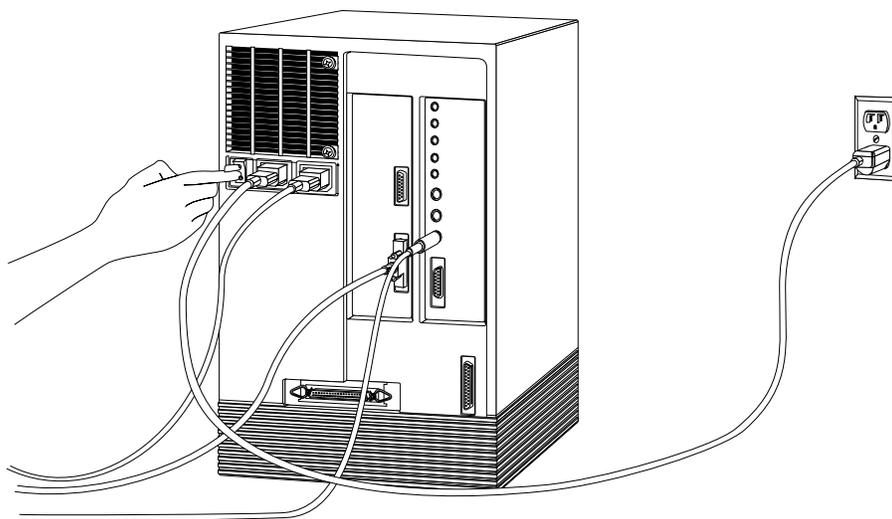

Figure 2-28 Turning Off the Power Switch
4. If you wish to power off the system, press and release the power button, as shown in Figure 2-28.